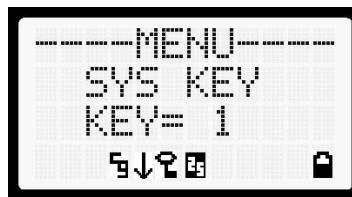

Figure 8-12: System Encryption Key Display
3. Use the  or  button to toggle between displaying the system key (Figure 8-12) or the group/channel key (Figure 8-13).